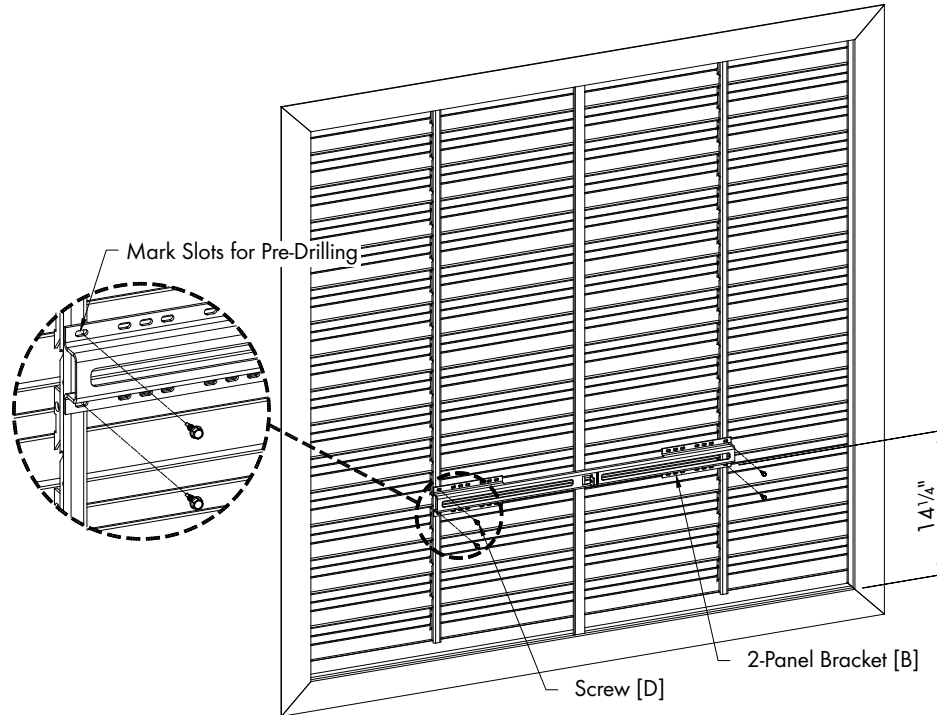

Figure 10
Place the 2-Panel Bracket [B] up to the 2 Connecting Bars  $1\frac{1}{4}$ " above the bottom frame of the shutter and mark the 2 slots on each Connecting Bar and pre-drill these marks using a  $\frac{5}{64}$ " drill bit. Then holding the Bracket up to the Connecting Bars secure it in place using (4) Screws [D]. *See Figure 10.*